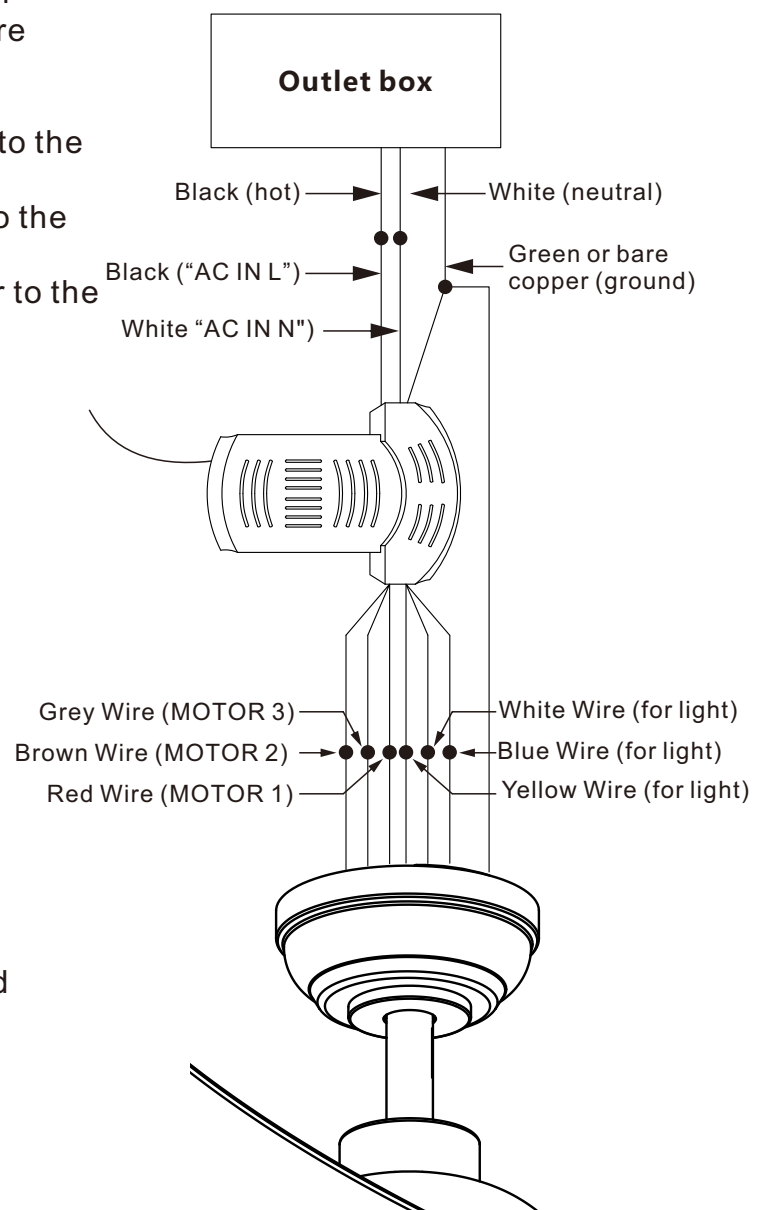

Figure 15
Motor to Receiver Electrical Connections:(Fig.15)
Step 3. (Fig.15) **Receiver to House Supply Wires Electrical Connections:** Connect the Black (hot) wire from the ceiling to the black wire marked "AC in L" from the receiver.
Step 4. (Fig.15) If your outlet box has a ground wire (green or bare copper) connect it to the fan ground wires and the receiver ground wire; otherwise connect the hanging bracket ground wire to the fan and the receiver ground wire. Secure the wire connection with a plastic nut provided. After connecting the wires, spread them apart so that the green and white wires are on one side of the outlet box and other wires are on the other side. Carefully tuck the wire connections up into the outlet box.